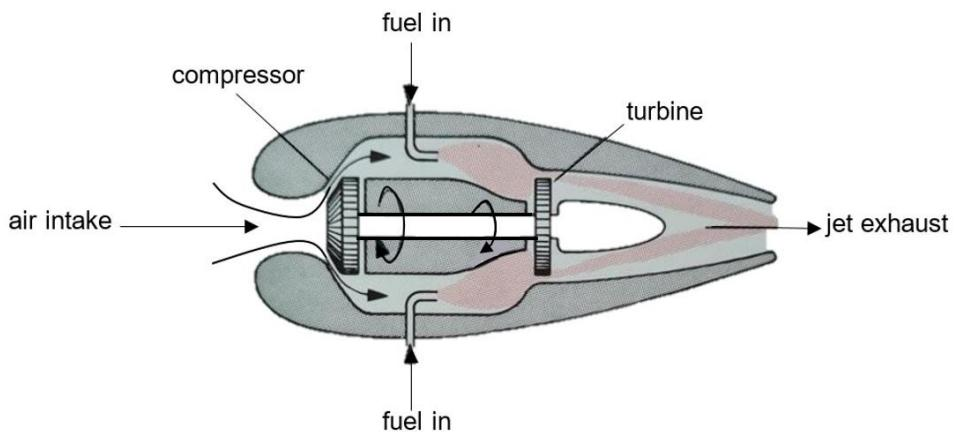

Fig. 7.2
The thrust is the forward force provided by a propulsion system of the plane – often the jet engines in a modern aircraft. A jet engine works by sucking air in the front, compressing it and then mixing and combusting the air with fuel before pushing it out at a much higher speed and higher pressure. Fig. 7.2 is a typical jet engine.
2. Fig. 7.2. Source : (<https://www.basicairdata.eu/knowledge-center/measurement/in-flight-angle-of-attack-usage/>)